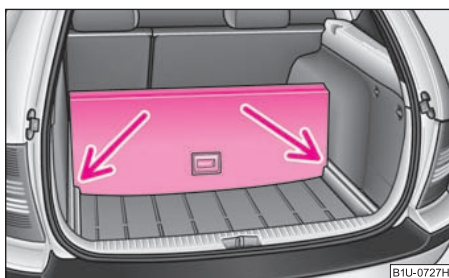

Fig. 80 Divide the luggage compartment
- Lift up a part of the loading floor with the handle and secure it by moving it into the grooves ⇒ fig. 80. ■